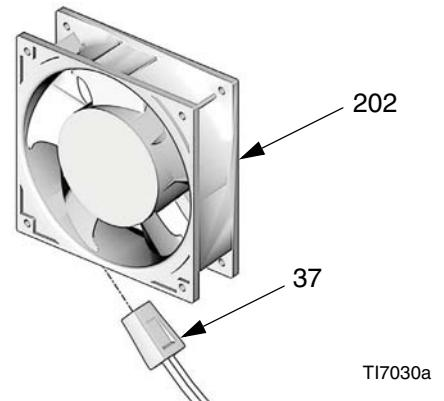

FIG. 63: Fan
3. Remove screws (10) and control board cover (61) to expose the control board (12).
4. Disconnect all cables and connectors from board (12).
5. Unplug cable (94) from fan (202). See FIG. 63, page 39.
6. Remove screws (13) and board (12).
7. Remove screws (10).
8. Feed proportioner cables out of grommet in the cart (1) and lift the cart off of the motor.